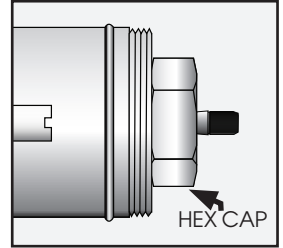

**FIG. 1**
2. The depth of rough-in should account for thickness of wall materials to be used, combining thickness of wall board and finished wall materials. It is **CRITICAL TO PLACE MUD GUARD FLUSH WITH FINISHED WALL.** FIG. 1